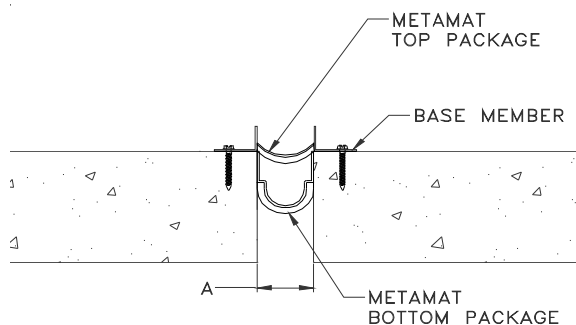

Figure 4
STEP 5. Place the joint cover system base members back into their installed position and attach them to the substrate using the fasteners provided by the factory (Figure 4).